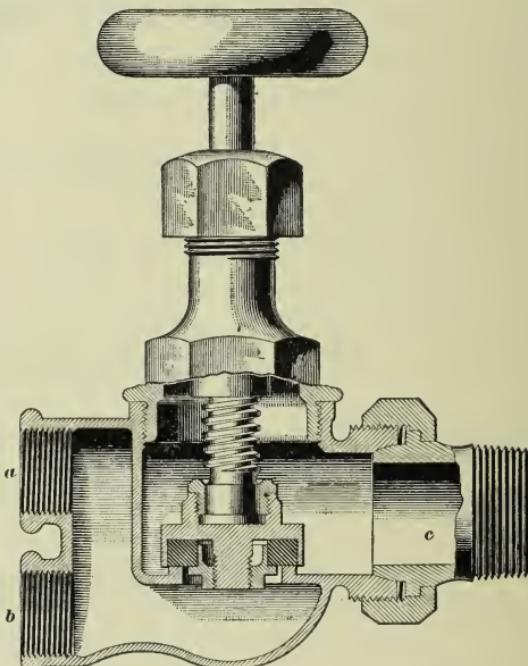

FIG. 79
The Collis circulating valve is a valve by means of which a very neat and sightly job can be made of the radiator connections in a two-pipe system, as the steam and return pipes will be close together. The general construction is similar to that of the offset globe valve; the valve, as shown in Fig. 79, has an inlet *a* for the steam and an outlet *b* for the water of condensation; the nipple *c* is connected to the radiator. The condensation is carried off by a separate pipe. By using this valve, the necessity of having two valves to a radiator is done away with in two-pipe steam-heating systems, and the circulation in the heating system is not interfered with by closing the valve, which simply shuts off the steam from the radiator. At the same time the filling of the radiator with water from the return pipe is obviated, which is likely to occur when a radiator with
- (3) Which class of boiler tubes do you consider best for use in stationary boilers ? Give reason.
- (4) At what pressure is spiral riveted pipe tested ?
- (5) (a) Where is it advisable to use cast-iron pipe for steam work ? (b) Also describe the usual method of connecting the pipe.
- (6) Briefly describe the use of brass pipe in steam work.
- (7) Describe the distinguishing characteristic of a right-and-left elbow.
- (8) Describe the purpose of a division tee.
- (9) Describe the purpose of a manifold tee.
- (10) For what is an eccentric cross used ?
- (11) Explain the use of a floor and ceiling sleeve.
- (12) Describe the distinguishing features of a gate valve.
- (13) State some of the advantages of the radiator valve shown in Fig. 79.
- (14) What class of check-valves is best adapted for use on return pipes ? Give reasons.